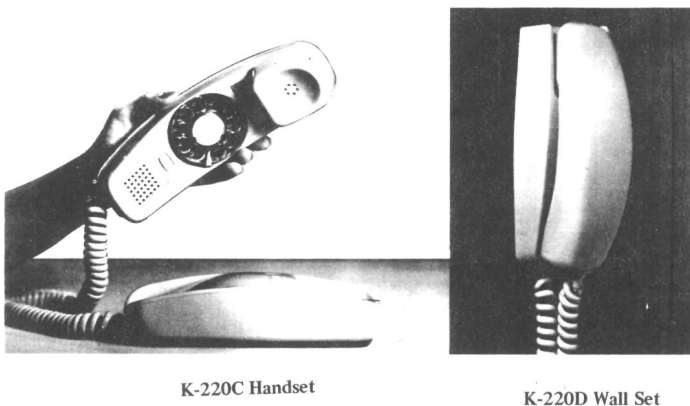

FIGURE 1.
2.01 The Trendline set is a dial-in-handset telephone which may be used as a desk or wall set. The 220C and 220D have different bases but utilize the same type of handset and cord. See Figure 1.